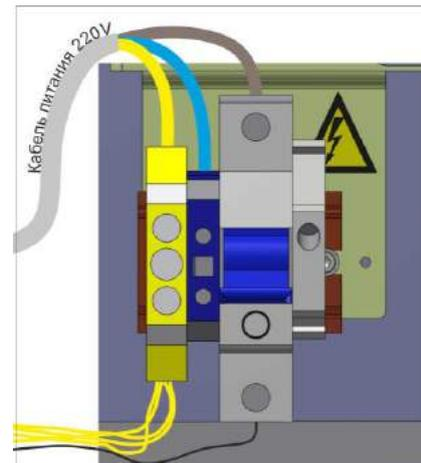

Fig. 17– Connection of power supply cable
a) Power supply cable ~230 V to be connected (Fig. 17):
- Phase (L) - to be connected to circuit breaker;
- Neutral (N) to be connected to terminal
The turnstile doors and side panels (Fig.17) to be installed, on their fixation locations after the required mounting is completed. Countertop to be fixed with screws.